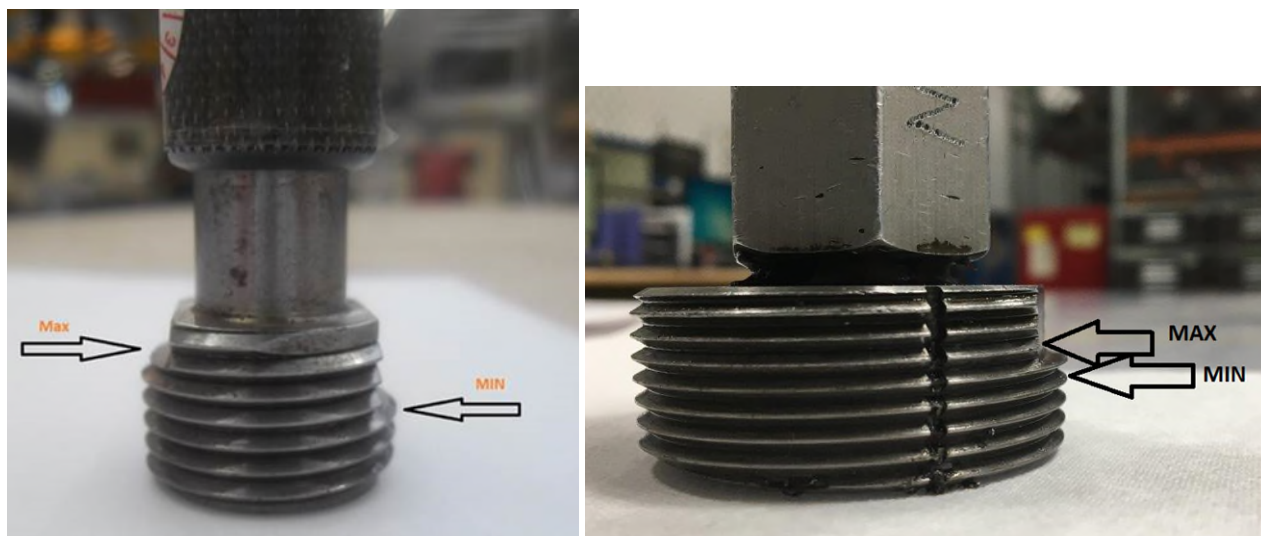

Figure 1: NPT thread gauging acceptance limits
- Screw gauge on hand tight. If the thread gauge has 2 flats, the part surface must be between the 2 notch surfaces. If the thread gauge has 1 flat, the part surface must be within +/- 1 turn of the notch surface. See Figure 1.